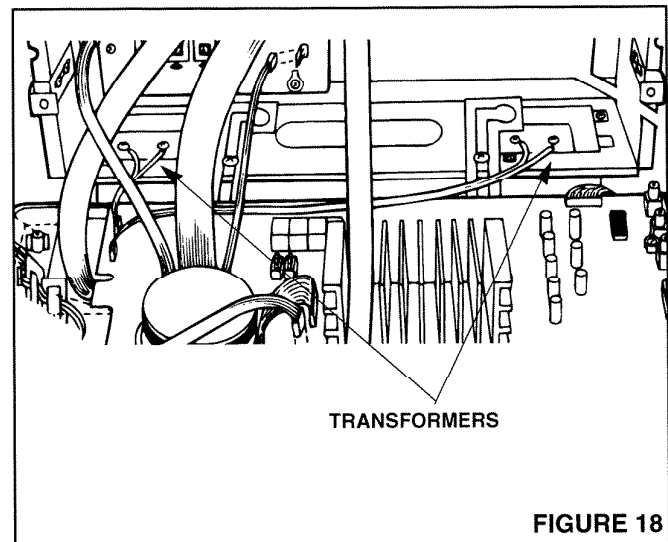

FIGURE 18
1. Refer to Figure 18. The transformers' primary leads should already be connected to the 120vAC house supply wiring. Be sure power is off to transformer before connecting Master.